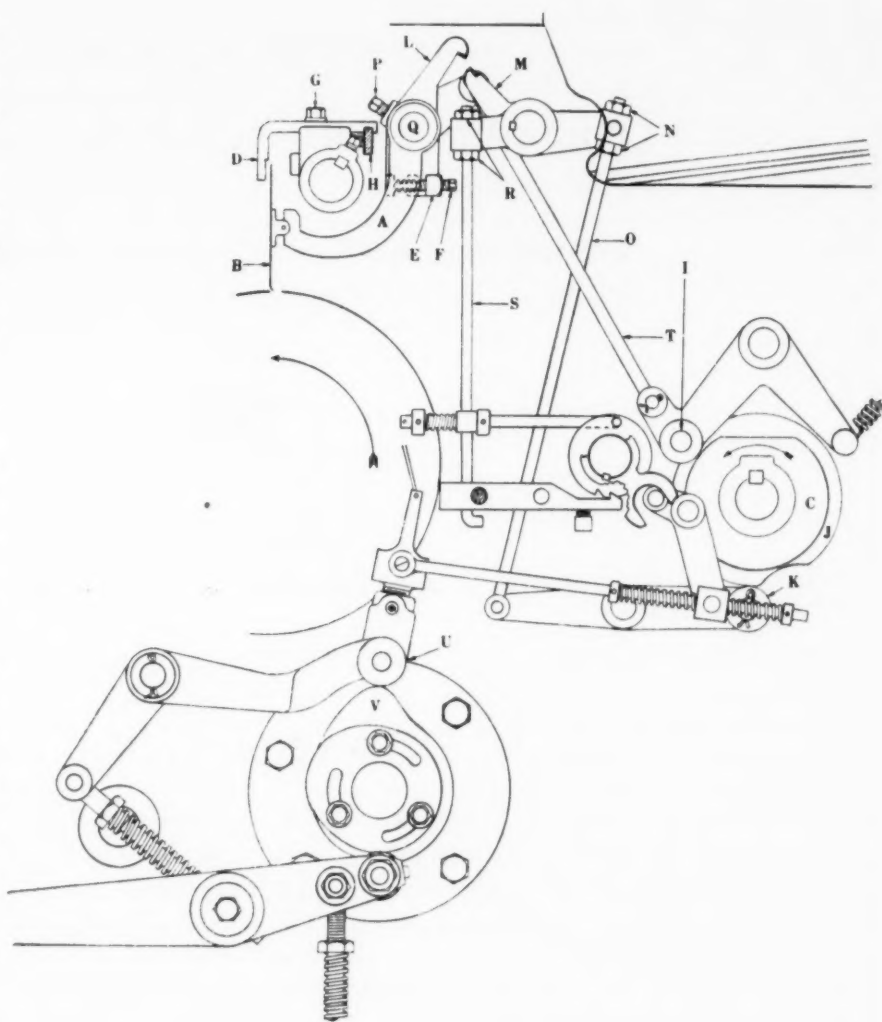

Figure 6
By examining figure 6 an understanding of how the trip operates may be obtained. Rod (T) and detector lever cam (C) are on the left side of the press. The other rods and cams are on the right side of the press.